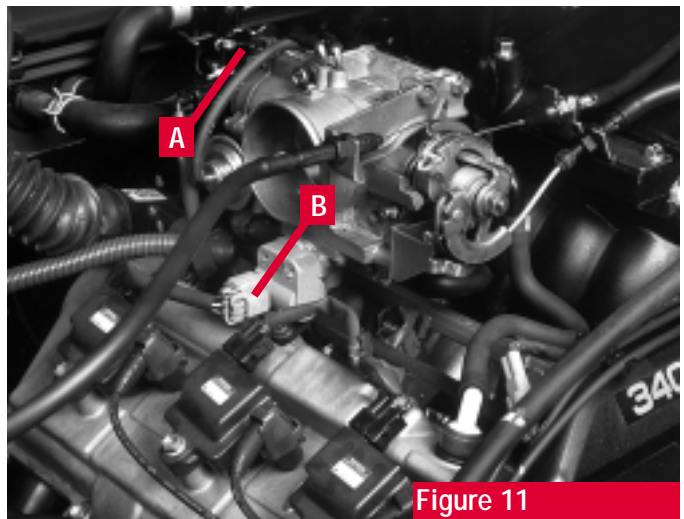

Figure 11
14. Unplug the throttle-position sensor connector (A) and the IAC (Idle Air Control) valve connector (B) (**see arrows, figure 11 and diagram on page 19**).